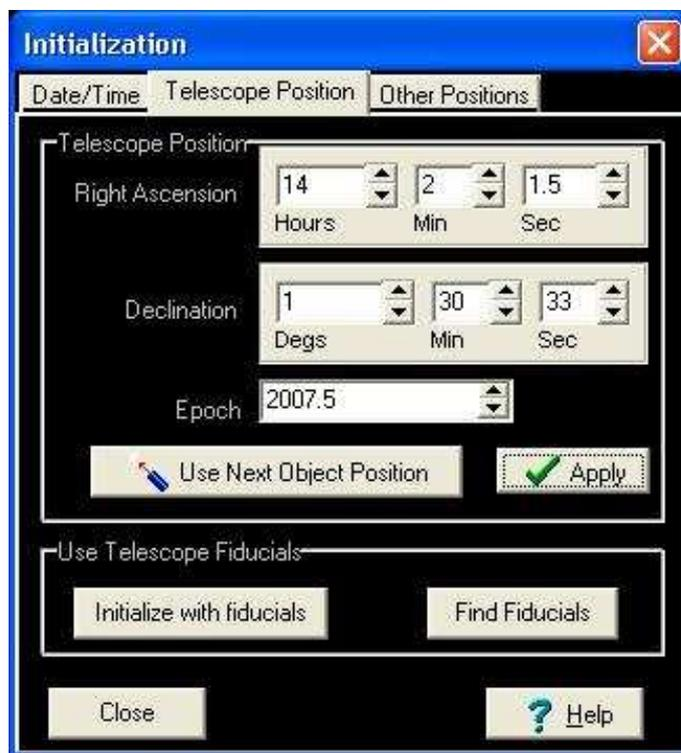

Figure 2.5: Initialising the telescope position.
- Go to ‘Telescope’ – > ‘Initialisation’ – > ‘Telescope Position’ (as shown in Figure 2.5). **Note:** Make sure that the TRACK is set to **OFF** on the MDC front panel.